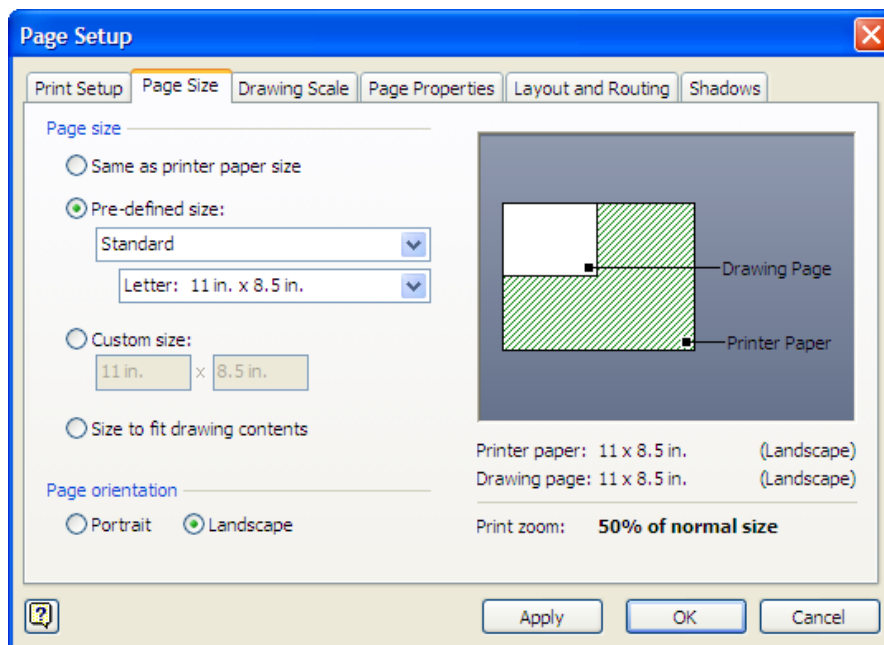

Figure 5 – Page Setup Dialog Box (Page Size Tab)
2. Click the *Page Size* tab (see Figure 5).